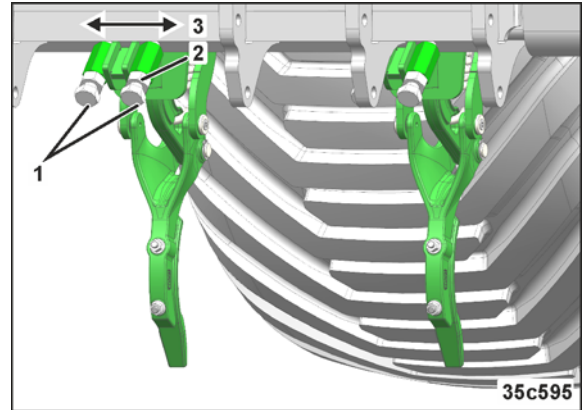

Fig. 206
1. Loosen the bolts (Fig. 206/1)
2. Push the wheel mark eradicator horizontally (Fig. 206/3) and move to the desired position.
3. Tighten (Fig. 206/1) and lock the bolts (Fig. 206/2) after adjusting the wheel mark eradicator.